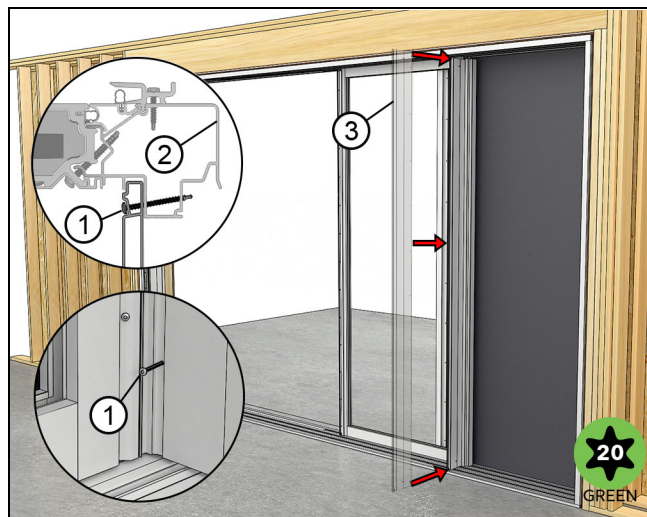

Figure 100
3. Attach the pocket cover assembly to the pocket support block at the top and bottom with the #8 x 1 3/4" (44) self drilling screws. See Figure 100.